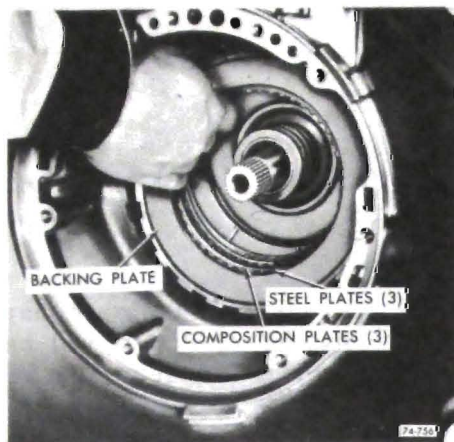

Figure 76-756
11. Lubricate with transmission fluid and install three (3) steel and three (3) composition intermediate clutch plates. Start with waved steel and composition and steel clutch plates. See Figure 76-756.